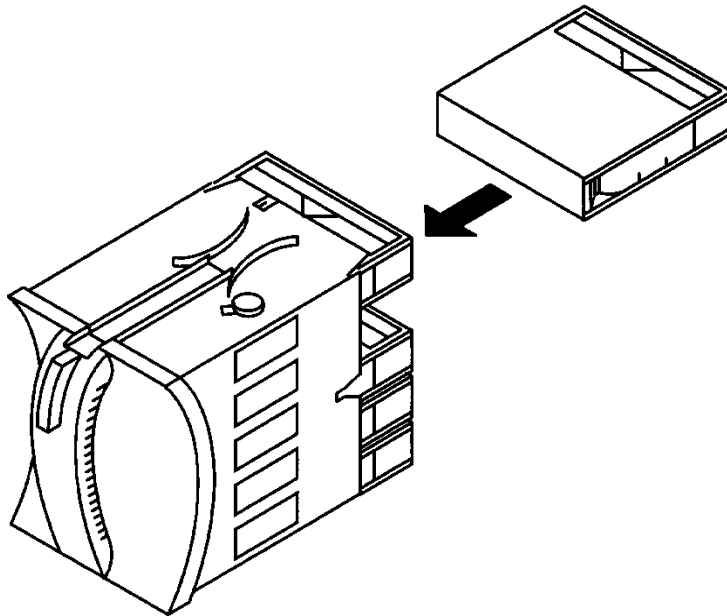

Figure 3-7. Loading Tape Cartridges into the Magazine
7. Insert up to five tape cartridges into a magazine so that the tape brand name printed on the top of the cartridge is facing up and the tape label is facing out towards you (see Figure 3-7). The tapes should "click" into place.